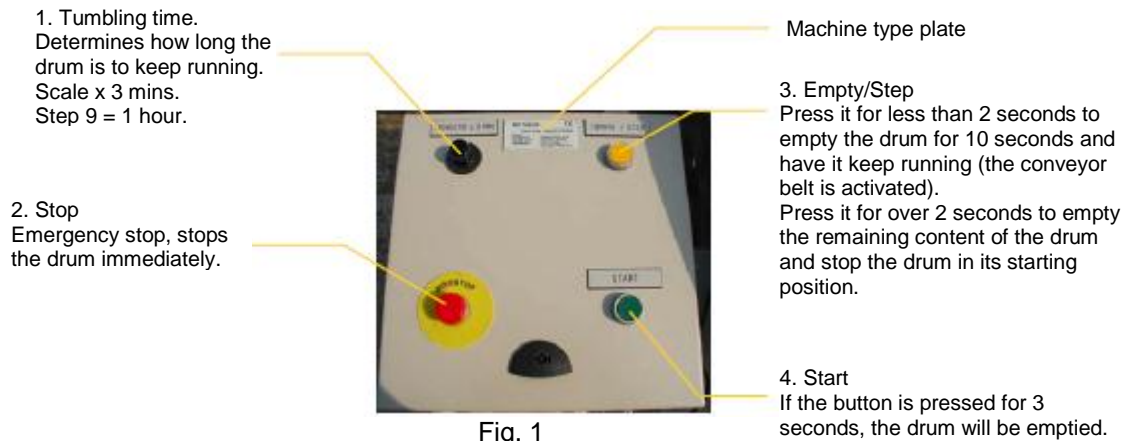

Fig. 1
- Set the tumbling time on the timer switch (fig. 1). There are 9 steps to choose from between 3 and 24 minutes. Choosing position 9 will extend the tumbling time to one hour.
Press the green **START** button (fig. 1) to start the tumbling process.
If you wish to empty the drum before the set time is up, you can do so by pressing the yellow **EMPTY** button (fig. 1) for more than 2 seconds. The drum will be emptied and it will stop in its starting position.
You can stop the tumbling process at any time by pressing the red STOP button (fig. 1).